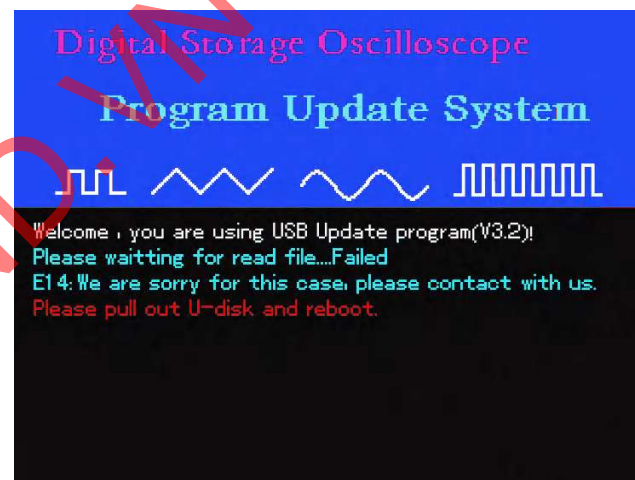

Figure 5-9
4. During upgrade, if the document in the USB root directory has been damaged and cannot be read, you will see the prompt shown in Figure 5-9 : "E14: We are sorry for this case, please contact with us. Please pull out U-disk and reboot."